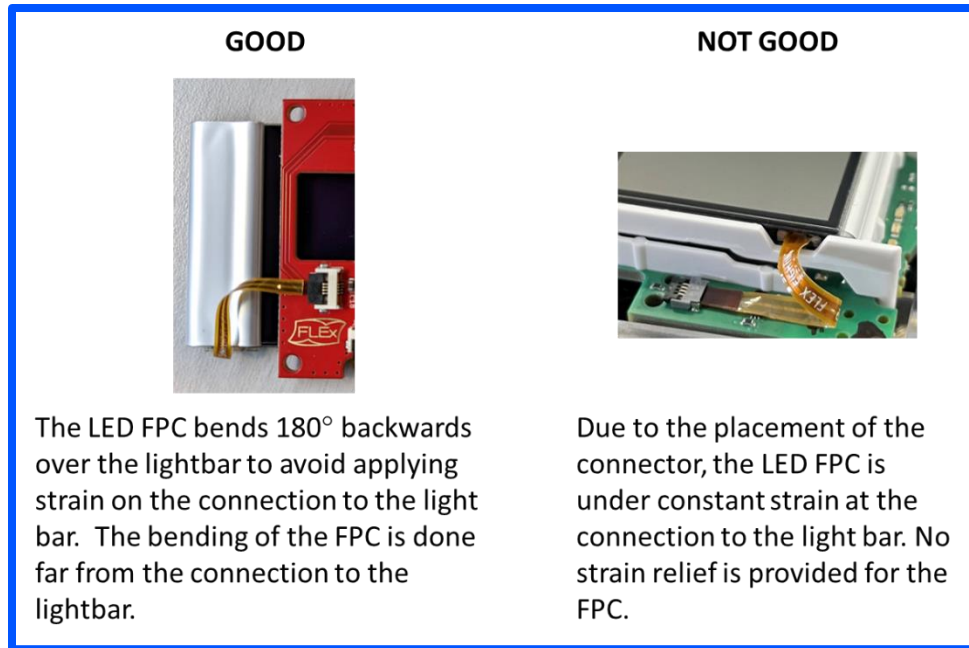

Figure 10. Recommended connector layout and routing for LED FPC.
5. When designing a connector layout for the LED FPC, avoid routing the LED FPC in such a way that produces strain at the lightbar connection. It is recommended to provide the LED FPC ample strain relief as close to the light bar connection as possible. Refer to Fig. 10.